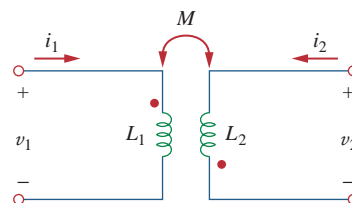

Figure 13.75
- 13.6** The coils in Fig. 13.75 have $L_1 = 40$ mH, $L_2 = 5$ mH, and coupling coefficient $k = 0.6$. Find $i_1(t)$ and $v_2(t)$, given that $v_1(t) = 10 \cos \omega t$ and $i_2(t) = 2 \sin \omega t$, $\omega = 2000$ rad/s.